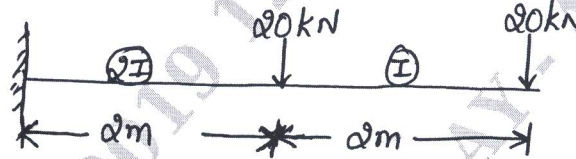

Fig Q4(b)
- b. Determine the deflection and rotation at free end of the beam shown using unit load method. Take  $E = 2 \times 10^5 \text{ N/mm}^2$  and  $I = 2 \times 10^6 \text{ mm}^4$  [ Refer Fig Q4(b)].